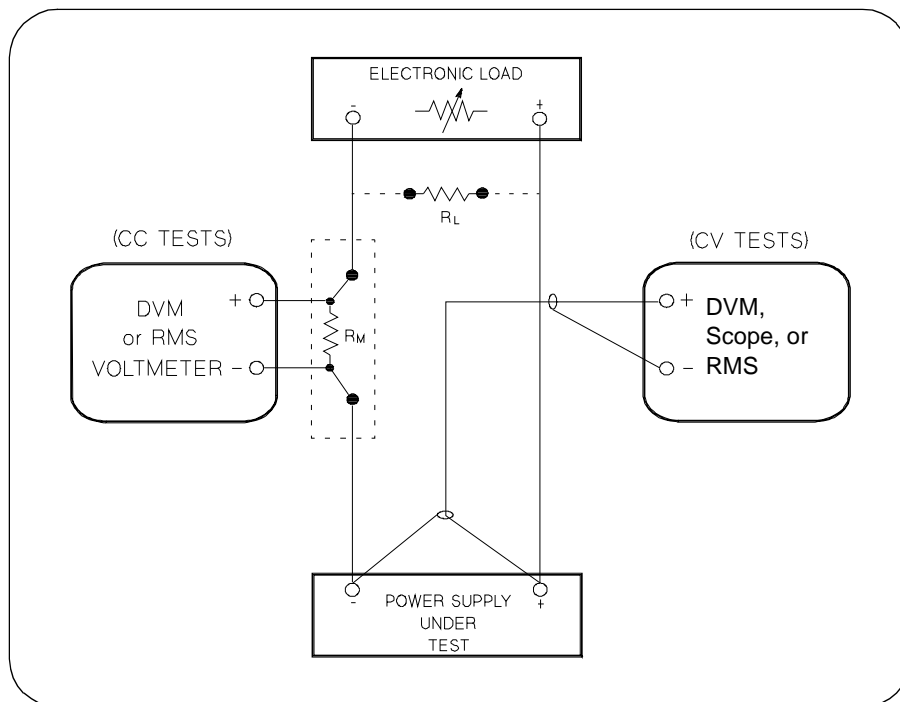

Figure A-1 Performance Verification Test Setup
Most tests are performed at the front terminals as shown in Figure A-1. Measure the dc voltage directly at the (+) and (-) terminals on the front panel.
To eliminate output current measurement error caused by the voltage drops in the leads and connections, connect the current monitoring resistor between the (-) output terminal and the load as a four-terminal device. Connect the current-monitoring leads inside the load-lead connections directly at the monitoring points on the resistor element (see R_M in Figure A-1).
- 1 Turn off the power supply and connect a digital voltmeter between the (+) and (-) terminals of the output to be tested as shown in Figure A-1.
- 1 Turn off the power supply and connect a digital voltmeter between the (+) and (-) terminals of the output as shown in Figure A-1.
- 6 Adjust the transformer to high line voltage (127 Vac for nominal 115 Vac, 110 Vac for nominal 100 Vac, or 253 Vac for nominal 230 Vac). Record the voltage reading on the digital voltmeter immediately. The difference between the digital voltmeter readings in steps (5) and (6) is the CV line regulation. The difference of the readings during the immediate change should be within the limit of (5 mV)* or (9 mV)**.
- 7 Repeat steps (1) through (6) for the other output.
- 1 Turn off the power supply and connect the output to be tested as shown in Figure A-1 to an oscilloscope (ac coupled) between (+) and (-) terminals. Set the oscilloscope to AC mode and bandwidth limit to 20 MHz. Connect a resistive load (13.5Ω)[‡] to the terminal at (B) as shown above.
- 6 Repeat steps (1) through (5) for the other output.
- 1 Turn off the power supply and connect the output to be tested as shown in Figure A-1 with an oscilloscope. Operate the electronic load in constant current mode.